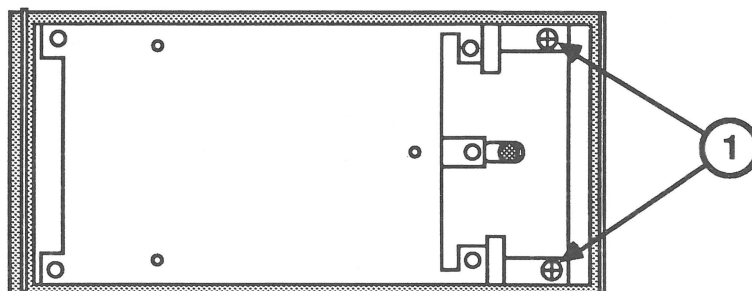

FIGURE 3
2. Remove the two screws (see Figure 3, #1).
3. Position the drive assembly on the top cover, and install the two screws (Figure 3, #1).